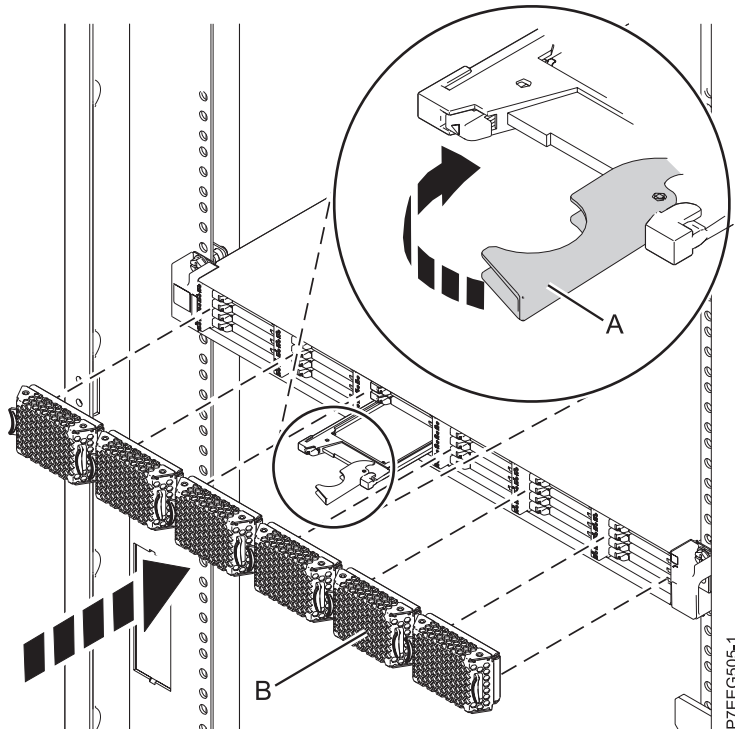

Figure 44. Replacing a solid-state drive in the EDR1 PCIe storage enclosure.
4. When the solid-state drive identify LED turns on solid, slide the solid-state drive all the way into the EDR1 PCIe storage enclosure until it is fully seated. Then rotate the handle (A) to the locked position. See Figure 44 on page 66.
6. Install the bezel (B).